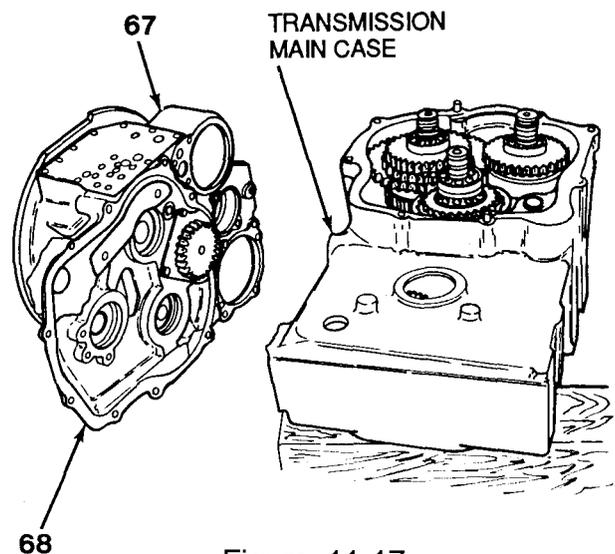
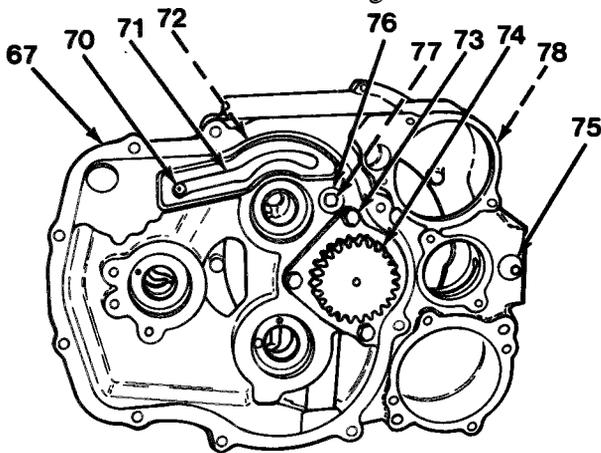

Figure 11-17
Figure 11-18
36. Remove front cover (67, Figure 11-17) by carefully using hoist and sling with eye bolts and pry bars to lift front cover from transmission main case.
37. Remove gasket (68). Remove all gasket material from mounting surfaces.
38. Remove three capscrews (70), oil passage cover (71) and seal ring (72) from front cover (67, Figure 11-18).
39. Remove three capscrews (73) and input shaft group (74).